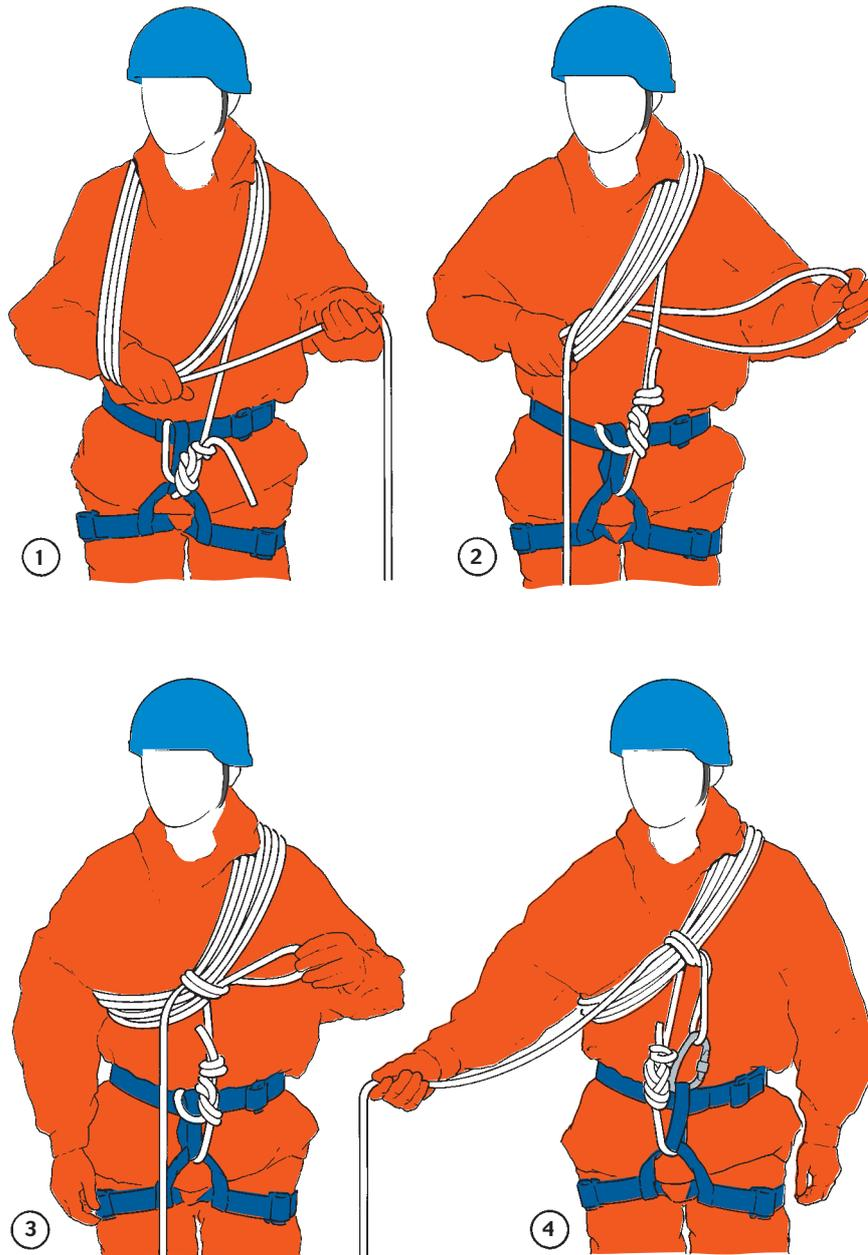

Figure 9.6b Taking on coils
- 5 Take-on coils until the Overhand knot is reached. Take on one more coil after the knot. The coils should hang halfway between your armpit and your harness. See Figure 9.6b.